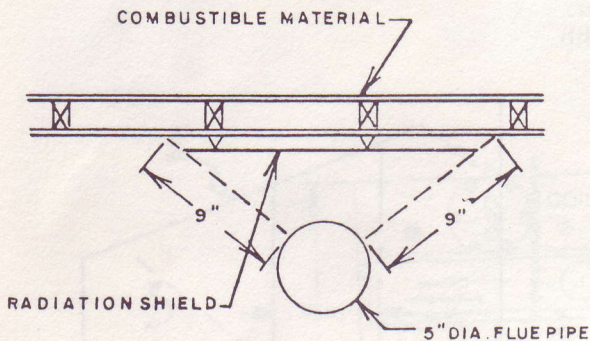

FIGURE 5
*If 9" clearance cannot be maintained from the flue pipe, use a radiation shield as shown in Fig. 5.